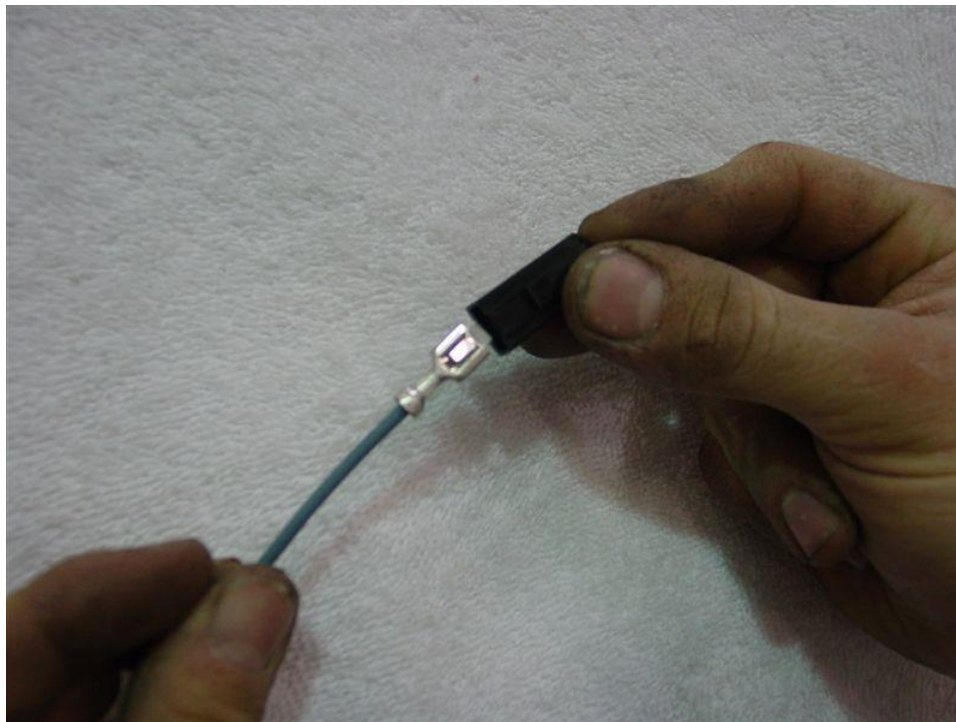

Figure 7 – Inserting Blue Wire into Provided Connector
4. Slide the included black male connector over the blue wire terminal which was just removed from headlight harness connector as seen in Figure 7. Connect the stock blue wire to white female connector (blue wire) on module pigtail harness.